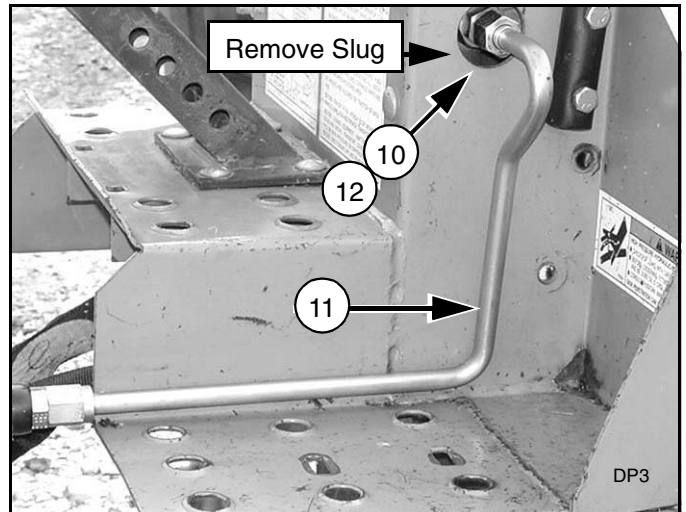

Figure 16. PBY Tube Assembly Installed
3. Install Power Beyond sleeve (10), straight connector (12), and tube assembly (11) on the side of the backhoe valve PBY port. See Figure 16.
4. Attach female quick coupler (2) to third hose (1).
5. Connected to the PBY tube assembly (11).